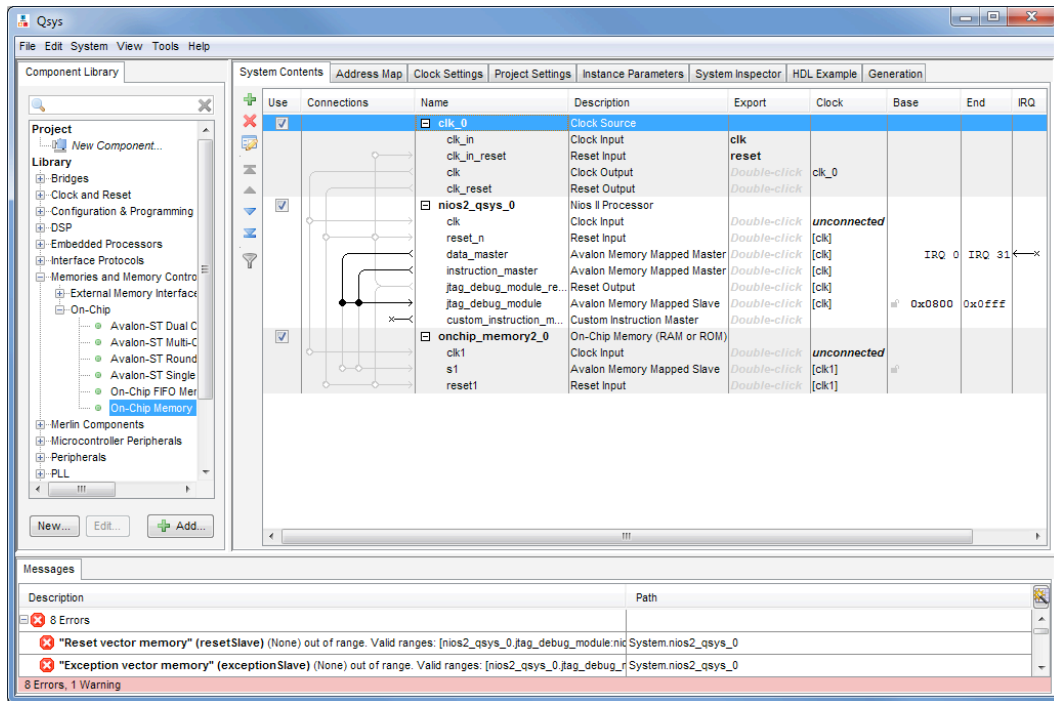
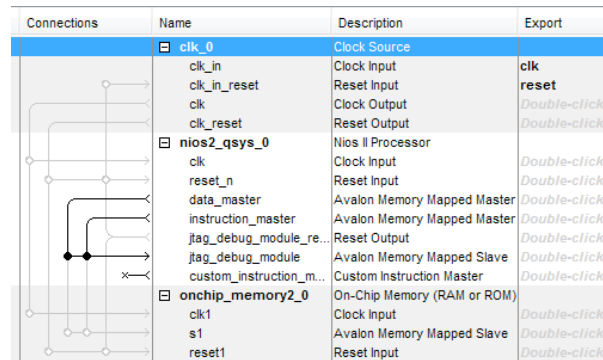

Figure 6. The on-chip memory included on a DE-series board.
Figure 7. Connections that can be made.
- Click Finish, which returns to the System Contents tab as indicated in Figure 6
Observe that while the Nios II processor and the on-chip memory have been included in the design, no connections between these components have been established. To specify the desired connections, examine the Connections area in the window in Figure 7. The connections already made are indicated by filled circles and the other possible connections by empty circles, as indicated in Figure 6. Clicking on an empty circle makes a connection. Clicking on a filled circle removes the connection.
- Observe that the error messages dealing with memory assignments shown in Figure 6 will now disappear